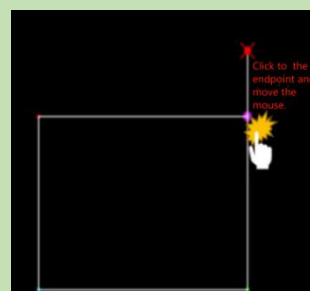

Figure4-18
2. Click the left mouse button at the point to be extended. Move the mouse and click the left mouse button to determine. Then an extended line of the line be drawn (as shown in Figure 4-18).